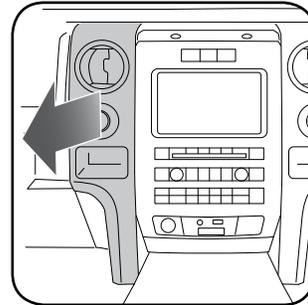

Fig. 1.3
3. Using a pry tool, pop out the left side panel. Unclip and remove. (Fig. 1.3)